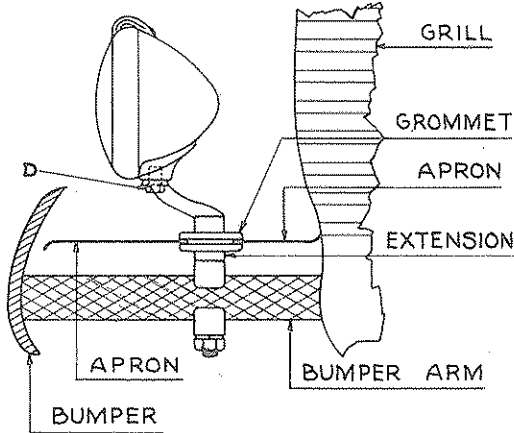
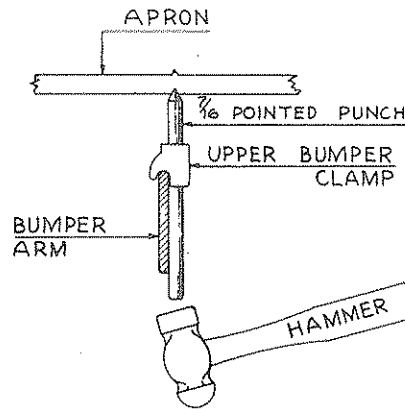

FIG. 1
FIG. 1A
1. Set bumper clamp (Fig. 1A) over bumper arm, so that hole center will be centered in space between inside edge of bumper and face of grill, but at least $1\frac{1}{4}$ " from face of grill. If bumper arm has beveled edge, set bumper clamp on bar, so that bracket bolt will be against narrow face of bar. (See Fig. 1-B). Be sure that the bumper clamp is set on bumper arm at point where bumper arm is on a level plane and not on a sloping plane. (See Fig. 1)
2. Insert $\frac{7}{16}$ " pointed punch through hole in clamp (Fig. 1-A) and center punch apron as indicated.
4. Insert rubber grommet and attach bumper arms in usual manner. Where necessary, place bumper clamp extension (See Fig. 1-B) between upper bumper clamp and main bracket arm.
7. Light heads are locked in proper position by bolt "D" at ball and socket joint. See Figure 1.